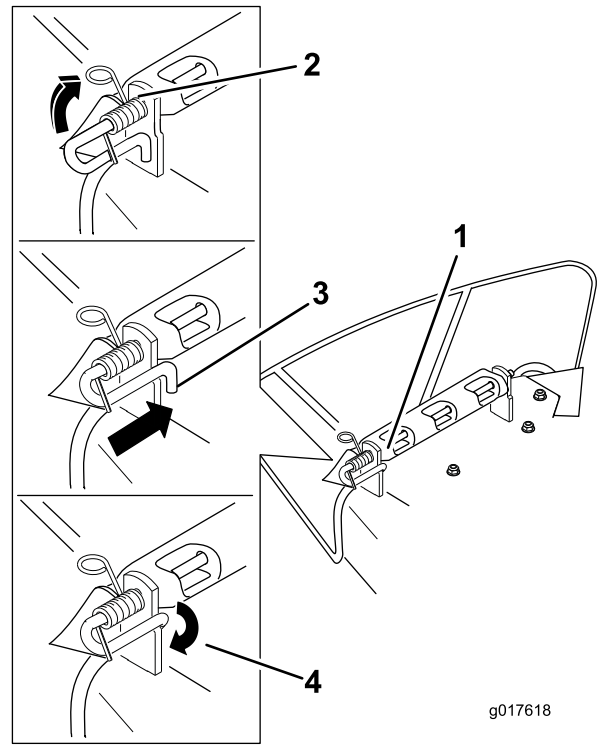

Figure 74
3. Position the new discharge deflector with the bracket ends between the welded brackets on the deck as shown in Figure 74.
6. Lift the loop end of the spring and place it into the notch on the deflector bracket (Figure 74).
7. Secure the rod and spring assembly by twisting it so the short end of the rod is placed behind the front bracket welded to the deck (Figure 74).